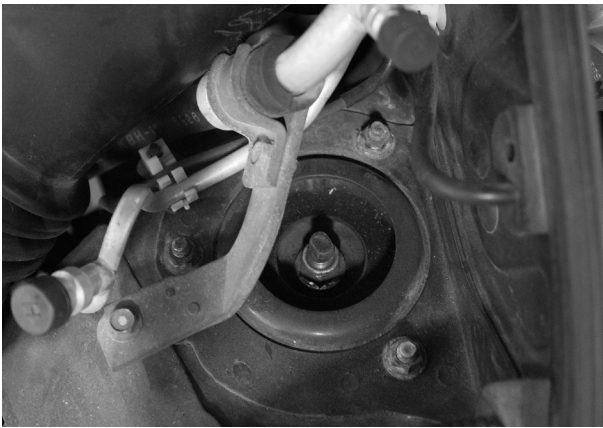

Fig. 7
3. Remove the three upper shock mount nuts (Figs. 7 & 8).